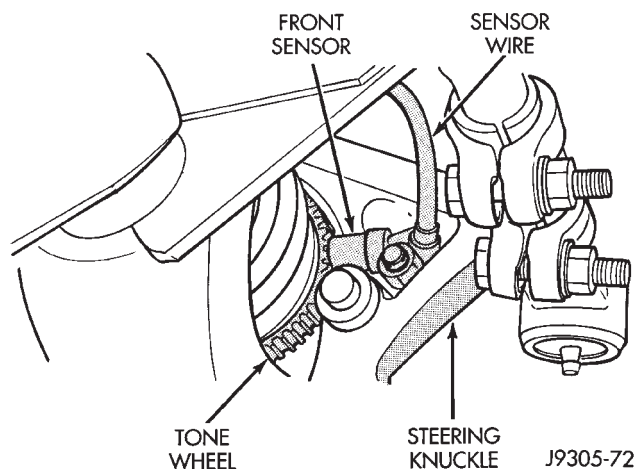

Fig. 3 Front Wheel Sensor Location
- (1) Turn ignition switch to OFF position.
- (2) Disconnect battery negative cable.
- (3) Raise vehicle.
- (4) Remove wheel and tire.
- (5) Remove bolt attaching front sensor to steering knuckle (Fig. 3).